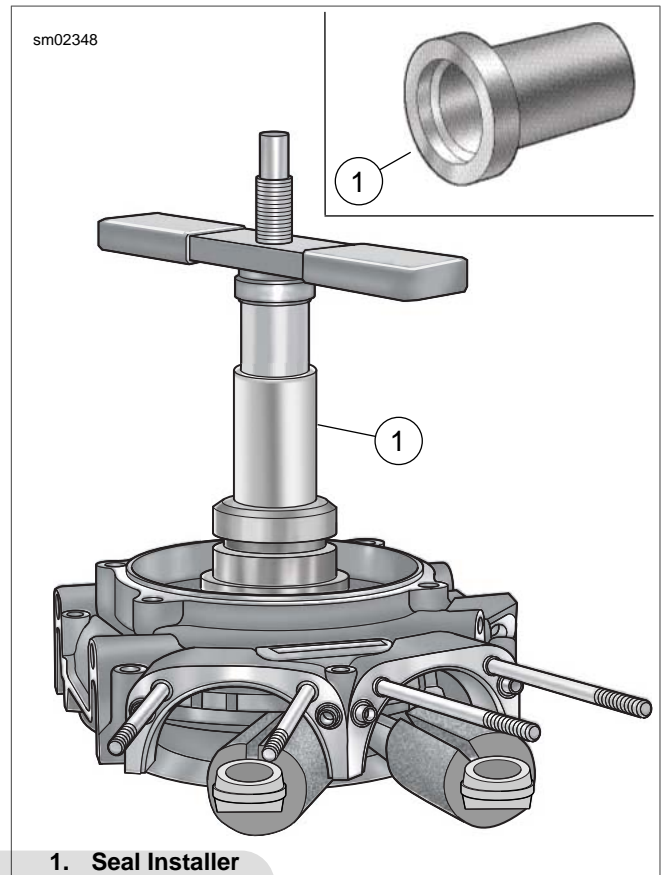

Figure 3-57. Sprocket Shaft Oil Seal Installer
12. See Figure 3-57. Install **new** oil seal into bearing bore. Obtain pilot adapter, pilot shaft, short collar, Nice bearing, large flat washer and handle from SPROCKET SHAFT BEARING INSTALLER (Part No. HD-97225-55C).